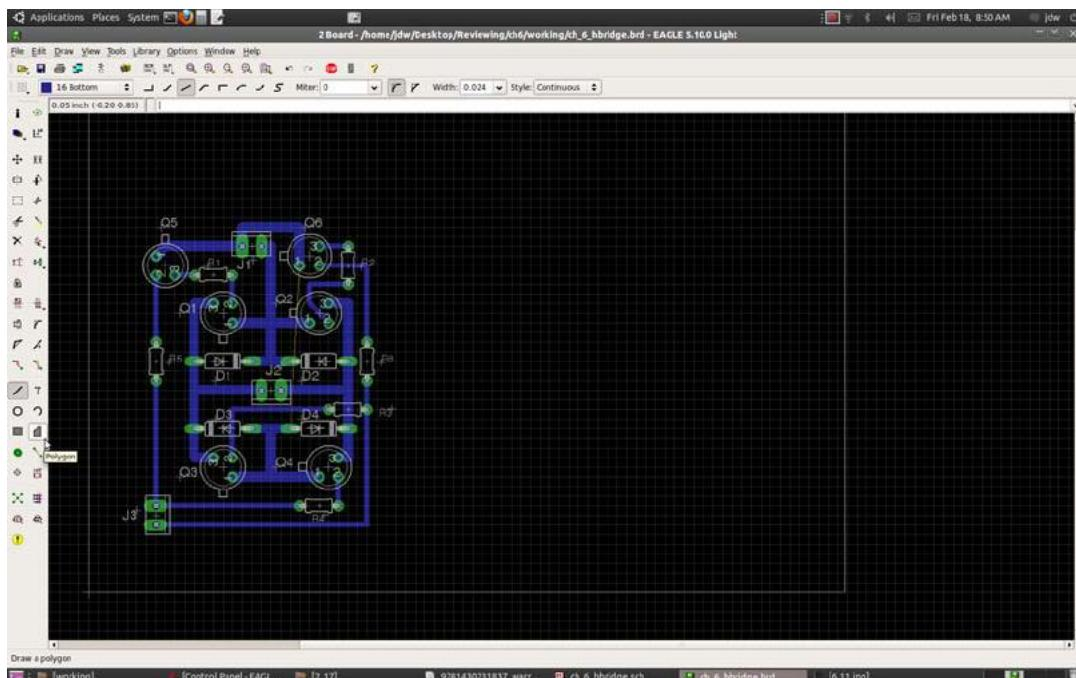

Figure 6-11. Use a smaller wire width to finish the signal traces and then select the Polygon tool to create a Ground plane.
5. *Routing power:* Click the Ratsnest button to remove the yellow virtual wires periodically after replacing them with wire connections. Finish the routing by connecting the remaining wires. You can use the resistors and diodes on this board as bridges to route wires beneath, as done with R2, R3, and D3 in Figure 6-11. You might notice the Ground wire going from Q5 and Q6 to Q3 and Q4 is still unrouted—that wire will be connected using the Ground plane in step 8.
6. **Make a Ground plane:** To fill all empty space on the PCB with a common GND pad of copper, you must select the Polygon tool from the Draw → Polygon menu (see Figure 6-11). Upon selecting the Polygon tool, draw a line completely around the circuit, giving a little padding around the edges. To finish the polygon (actually a rectangle in this example), double click at the starting point. When the line is finished, use the Name tool to change the name of the polygon to be the same as the Ground supply, usually GND (see Figure 6-12).